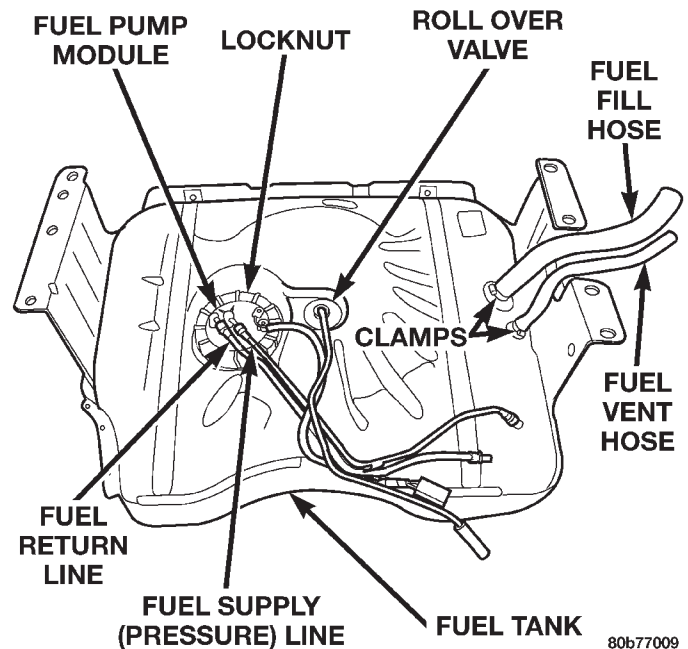
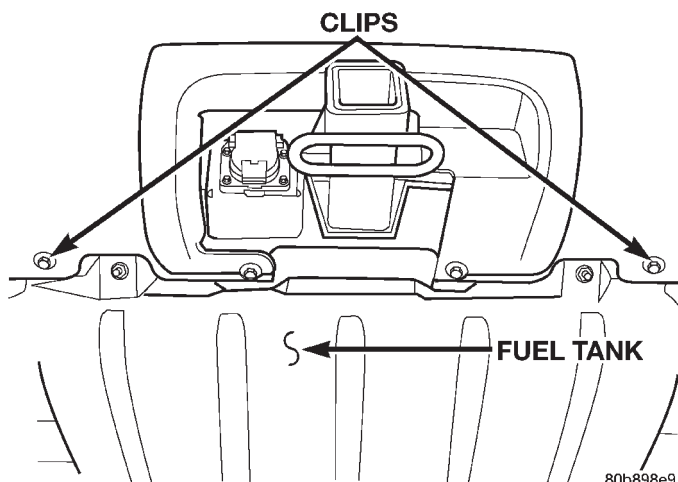

Fig. 37 Fuel Tank Assembly (Top View)
Fig. 38 Fuel Tank-to-Rear Bumper Fascia Clips
- (1) Release fuel system pressure. Refer to Fuel System Pressure Release Procedure.
- (2) Disconnect negative battery cable at battery.
- (3) Raise and support vehicle.
- (4) Working from front of fuel tank, loosen clamp at fuel vent hose at fuel tank end of hose (Fig. 37). Remove hose at tank fitting.
- (5) Obtain a length of 3/8" O.D. thinwall, clear tubing.
- (6) Position 3/8" O.D. tubing into tank vent fitting. Attach 3/8" tubing to an approved gasoline draining station. Drain tank until empty.
- (7) Remove rear tow hooks (if equipped).
- (8) Remove optional trailer hitch (if equipped).
- (9) Remove fuel tank-to-rear bumper fascia clips (Fig. 38).